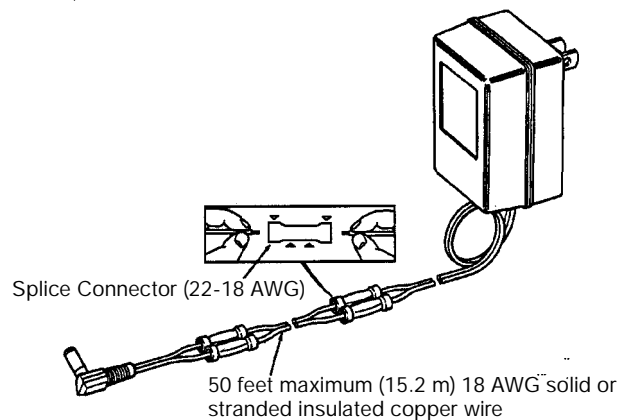

Figure 19
- Insert stripped wire into barrel of connector and crimp. For best results, crimp twice per wire as shown in Figure 19.